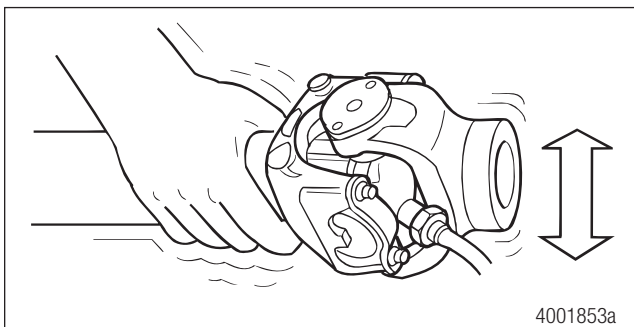

Figure 8.12
- Move the assembly UP-AND-DOWN or SIDE-TO-SIDE while you apply grease gun pressure. Figure 8.12.